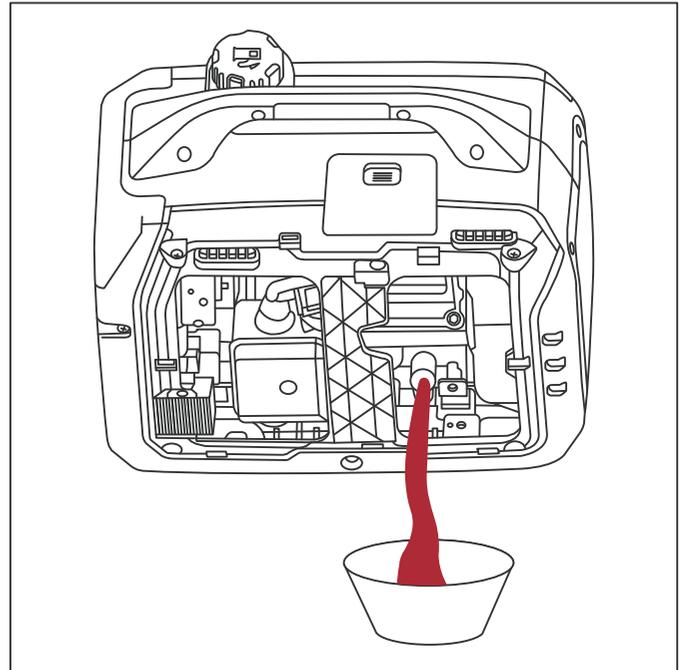

Fig.26
- 5 Remove the oil dipstick and tilt the generator to discharge the oil (see **Fig.26**).